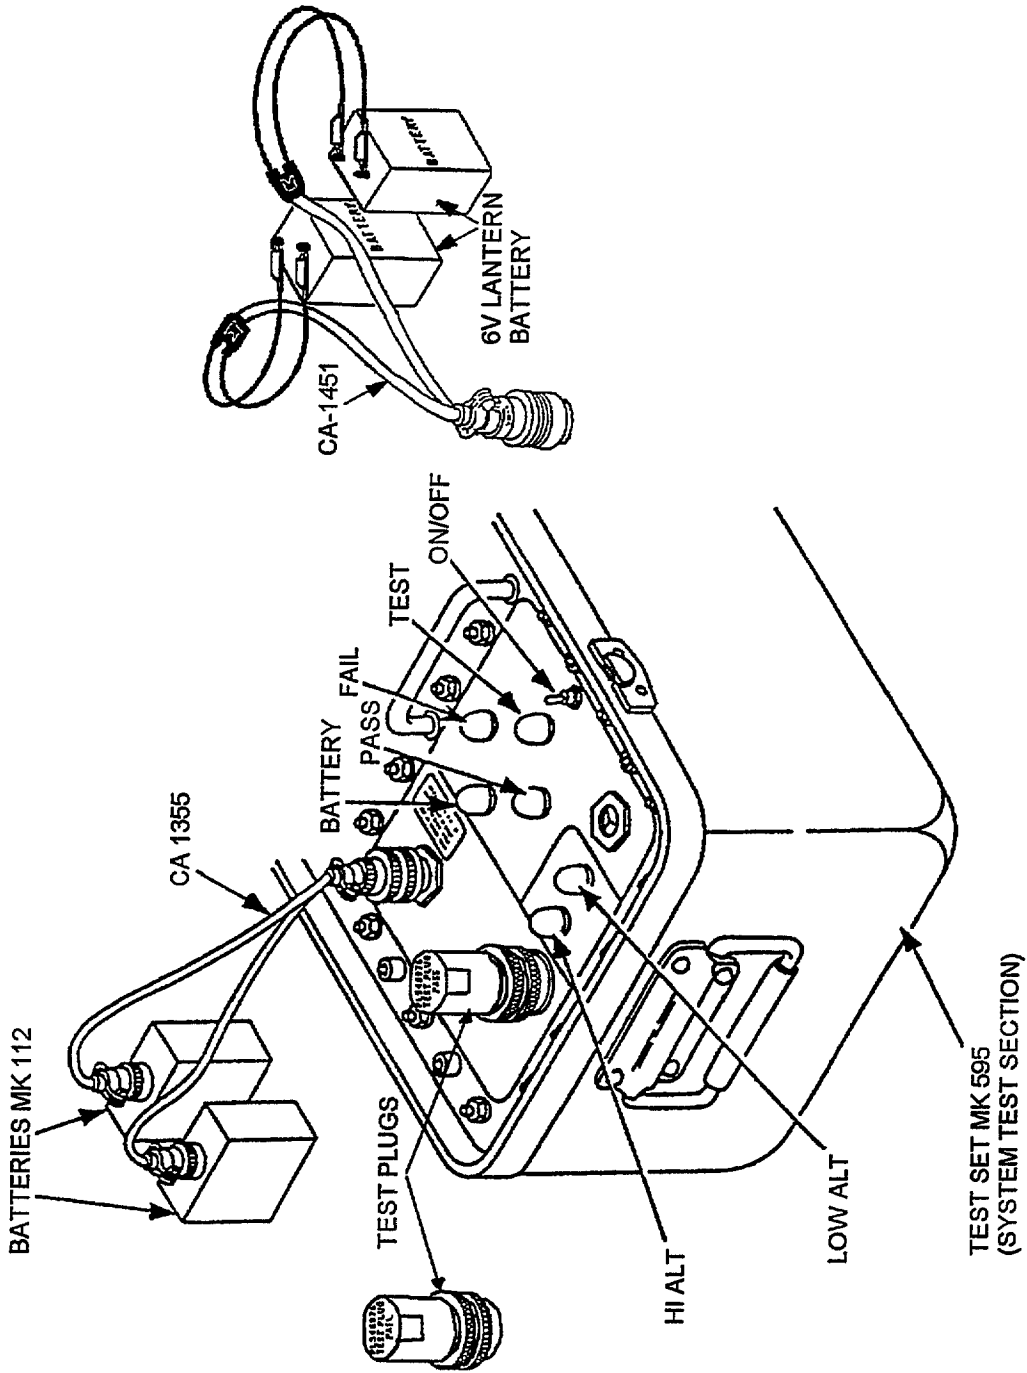

Figure D-5. System Test Section Self Test Set-Up
- d. Connect P1 of Cable Assembly CA-1355 to the CA-1355 panel connector of the system test section and ensure that the P2 and P3 legs of the cable assembly are each connected to a Battery Mk 112 (Figure D-5).